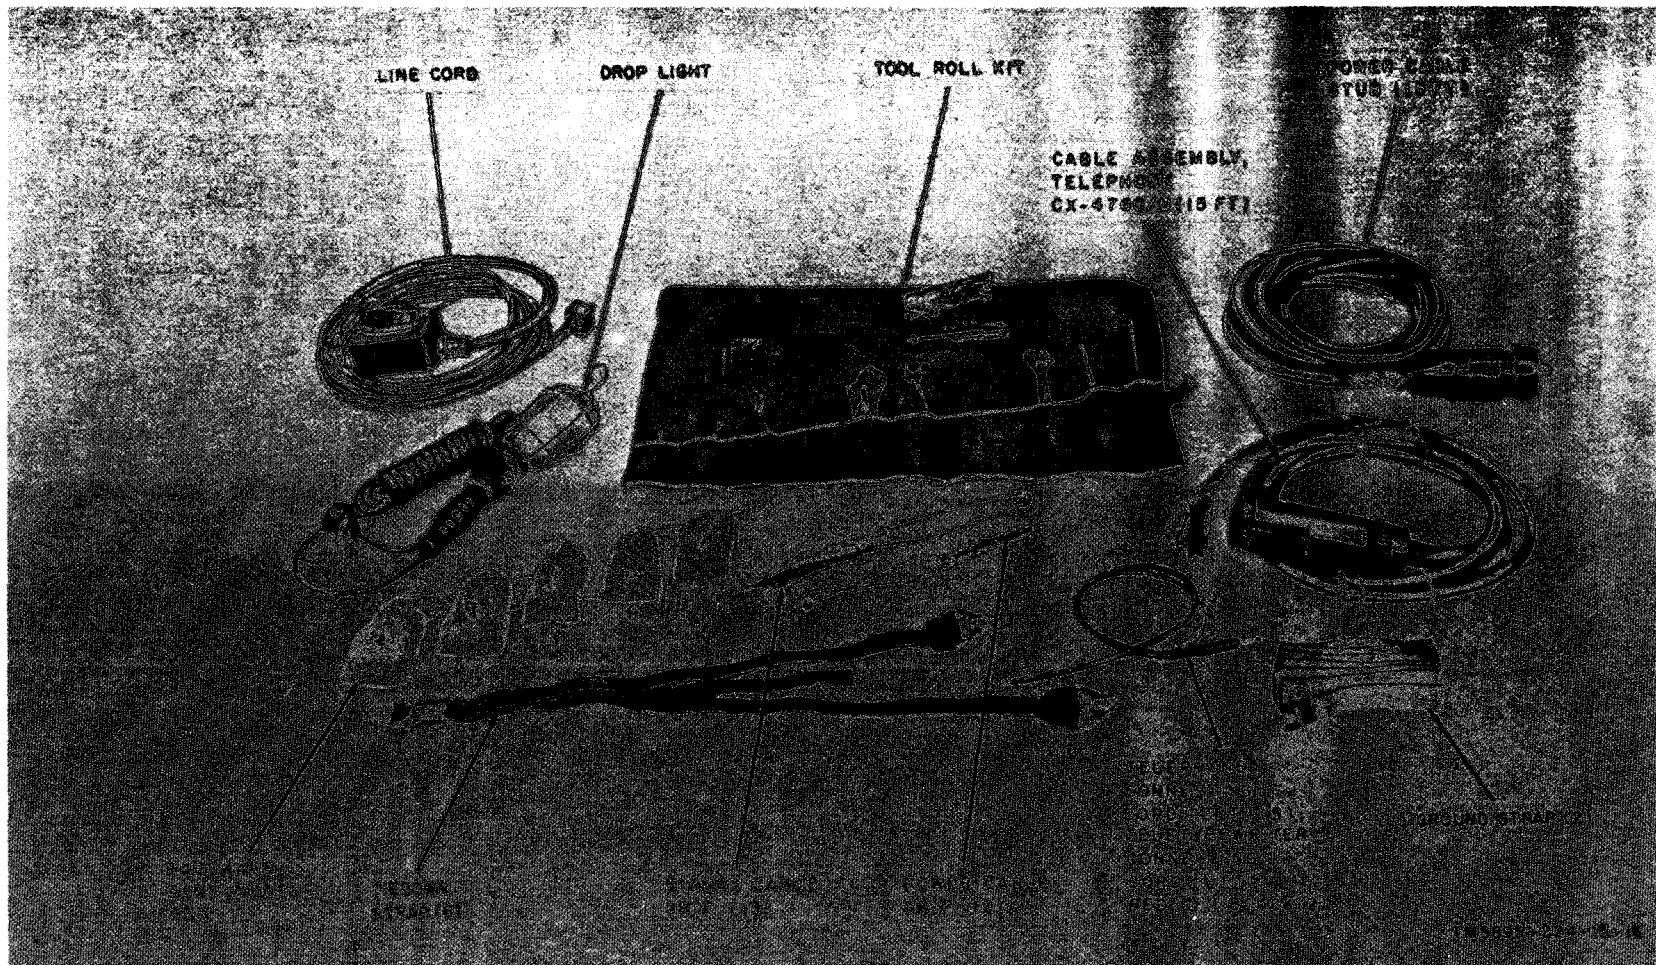

Figure 2. Shelter, Electrical Equipment, S-184/MSC-32, tools and accessories.
- (2) Power cable stub (fig. 2). The power cable stub is a 15-foot, 3-conductor
- (4) *Cable Assembly, Telephone CX-4760/U* (fig. 2). The CX-4760/U is a 26-pair cable stub that is 15 feet long and is equipped with a 26-pair cable connector on one end and prepared leads on the other end.
- (7) *Telephone and teletypewriter connecting cords* (fig. 2). The telephone (4 feet and teletypewriter (6 feet) connecting cords are two-conductor cords equipped with telephone plugs on one end and prepared leads on the other end.
c. A tool kit (para 5b and fig. 2) is used for equipment installation and connection.